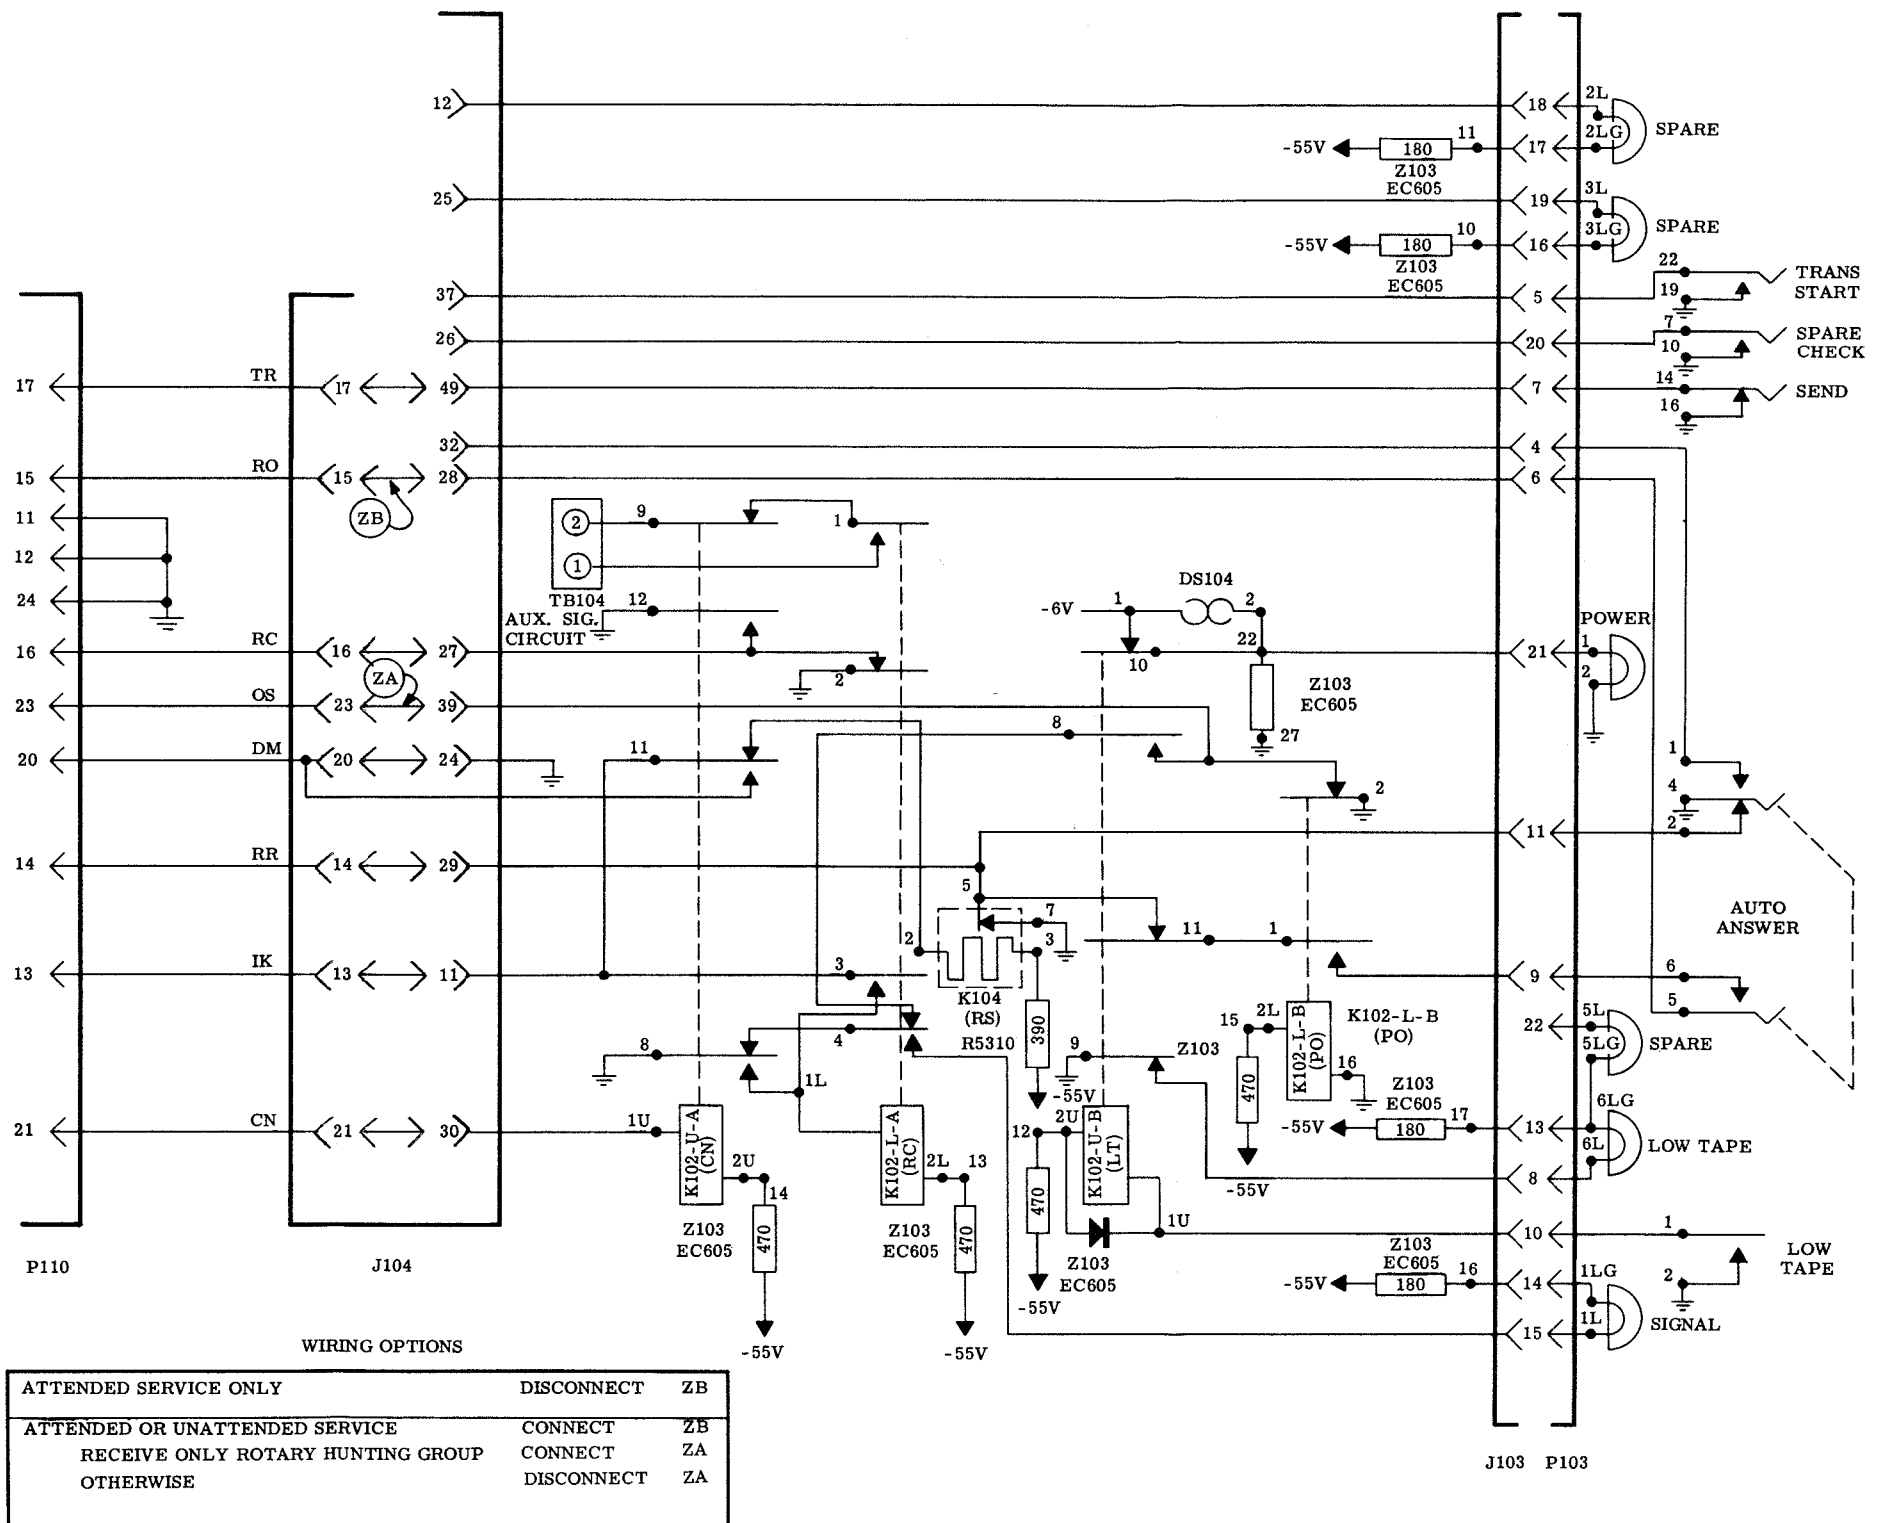

Figure 7 - Control and Low Tape Alarm Circuits
C. Control and Low Tape Alarm Circuits (Figure 7)
A. Out of Service Wiring Option ZA (Figure 7)
B. Unattended Answer Wiring Option ZB (Figure 7)